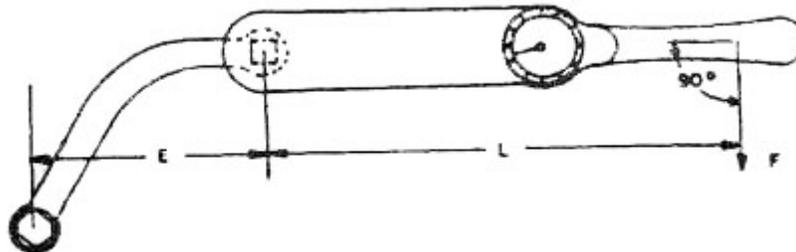

Figure 4-19. Adaptor Attached to Handle End of a Box End Wrench
13. Here again we have a wrench which adds length. Note that only the distance parallel to the torque wrench is used to get Factor "E" (See Figure 4-19.)